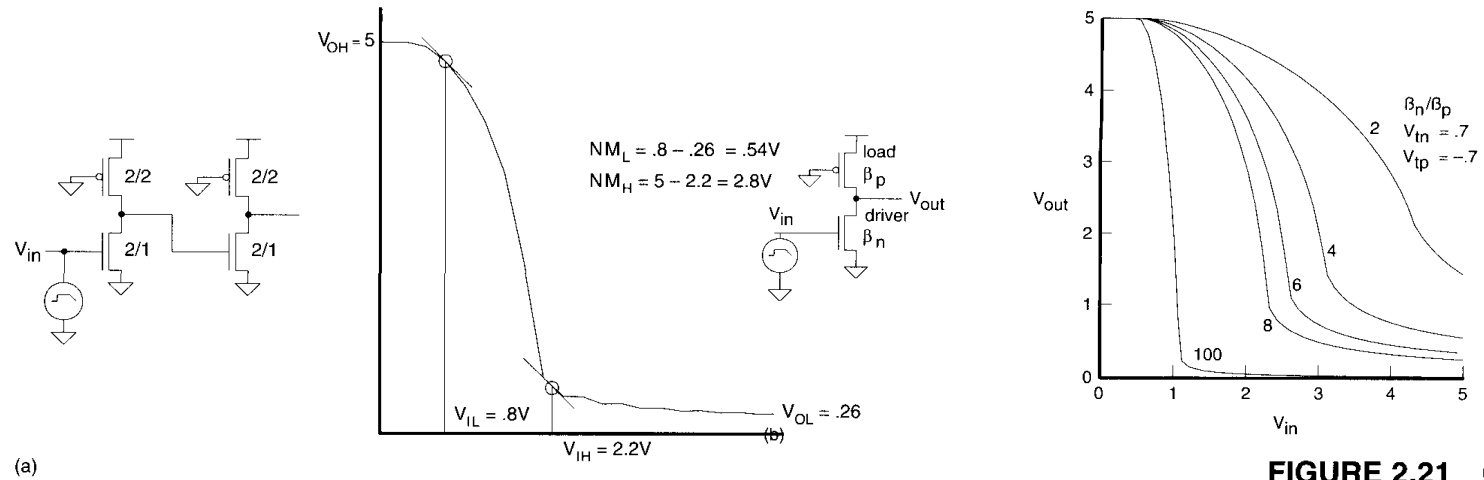

FIGURE 2.21 Cascaded pseudo-nMOS inverters
- Figure 2.21(a) shows an example of noise margin and 2.21(b) shows the transfer curves in terms of b_n/b_p .
- The inverter shown in Figure 2.21(a) is typically used in static ROMs and PLAs.